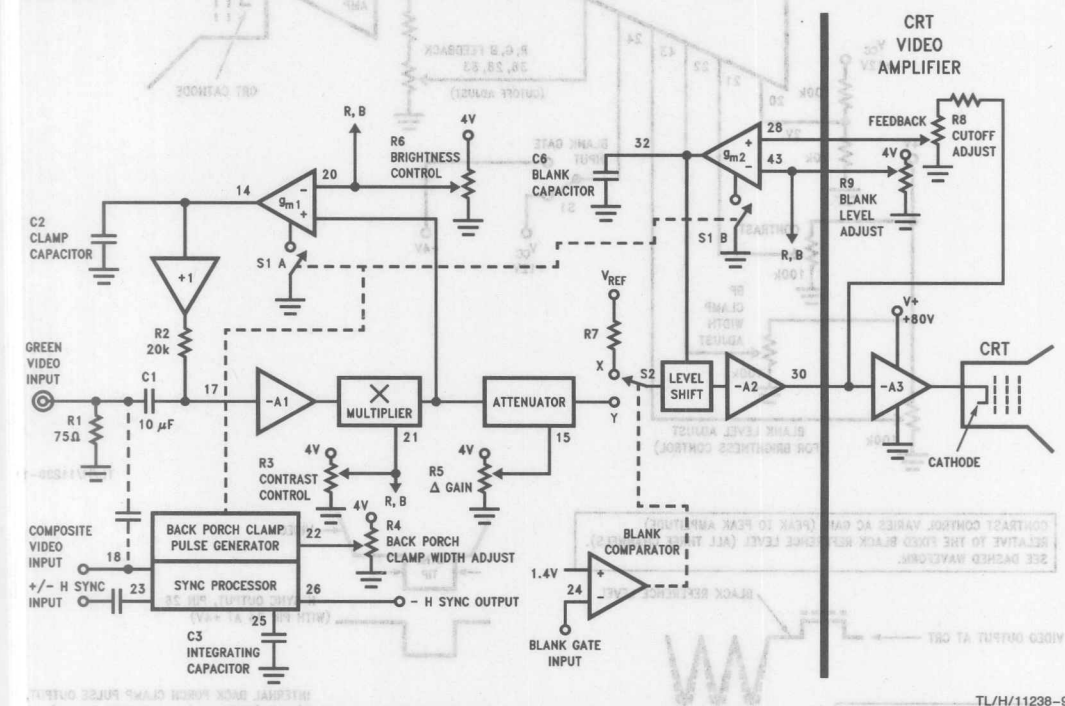
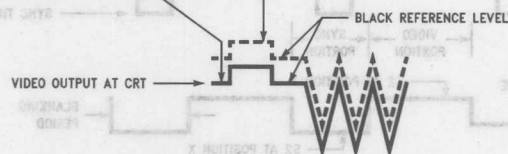
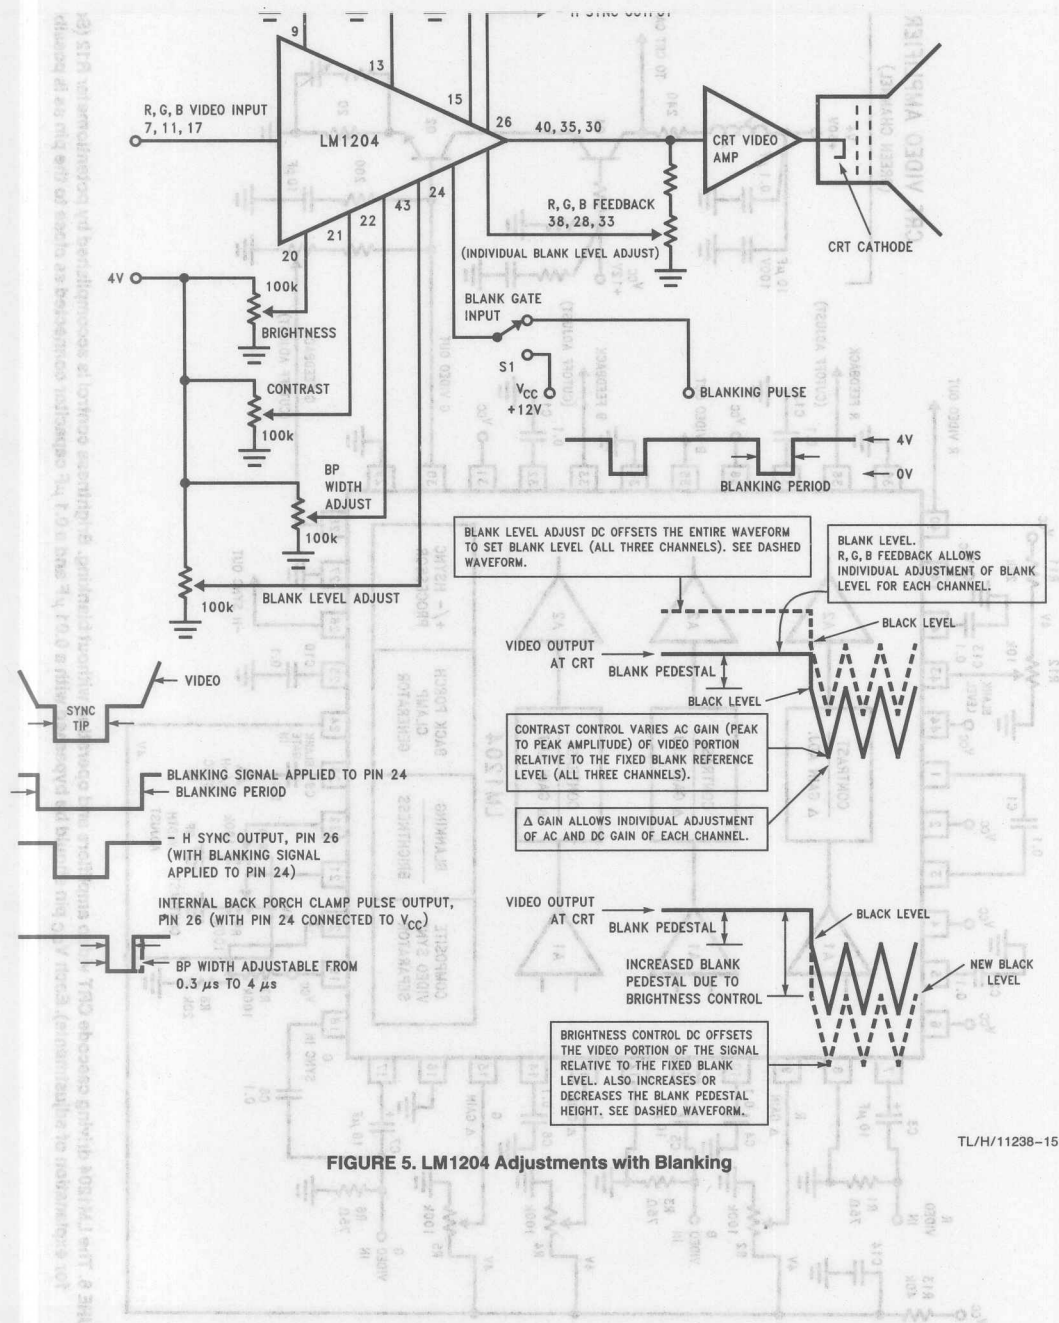

FIGURE 2. Block Diagram Showing Timing Circuitry and Green Video Channel
FIGURE 4. LM1204 Adjustments without Blanking
FIGURE 5. LM1204 Adjustments with Blanking
- Brightness Control** (Pin 20) If the LM1204 is used without blanking then this pin should be biased at 2.0 V_{DC}. Brightness control for all three video channels is now controlled by pin 43 (blank level adjust pin). See Figure 4. If the LM1204 is used with blanking then this pin allows the user to simultaneously DC offset the video portion of the output signals of all three channels thus allowing brightness control (See Figure 5).
to 4 V _{DC} voltage to this pin. The back porch clamp signal width can be varied from approximately 0.3 μ s to 4.0 μ s by applying 4V to 0.5V respectively. By connecting the blank gate input pin (pin 24) to V _{CC} , the back porch clamp pulse can be monitored on the -H Sync output pin (pin 26). See Figures 4 and 5. By connecting pin 22 to V _{CC} , the LM1204 functions as a non-gated amplifier requiring no clamping. See Section 4 under application hints for further information.
Blank Gate In (Pin 24)	This is the blank gate input pin. The LM1204 allows video blanking at the preamplifier. If blanking is desired then a TTL compatible, negative polarity blanking signal should be applied to this pin. During the blanking interval, all three video outputs are level shifted to the blank level set by the voltage at pin 43. If blanking is not required then, pin 24 should be biased at 4V. Connecting pin 24 to V _{CC} will cause pin 26 to output the internally generated back porch clamp signal. The user can observe the change in back porch width as the potential at pin 22 is varied (see Figures 4 and 5).
-H Sync Out (Pin 26)	This output pin provides a negative polarity horizontal sync signal for other system uses. There is approximately 100 ns delay between the \pm H Sync input signal at pin 23 and the -H Sync output signal at pin 26. Connecting pin 24 to V _{CC} will cause pin 26 to output the internally generated back porch clamp signal. The user can observe the change in back porch clamp pulse width as the potential at pin 22 is varied (See Figures 4 and 5).
Blank Level Adjust (Pin 43)	This pin serves two functions depending on whether the LM1204 is used with blanking or without blanking. If blanking is not selected then pin 20 should be biased at 2.0 V _{DC} and pin 43 assumes the role of brightness control. Varying the potential at pin 43 will simultaneously DC offset the video output signals of all three channels (See Figure 4). If the LM1204 is used with blanking then during the blanking interval, all three video output signals will be level shifted to the blank level. The desired blank level can be set by adjusting the potential at pin 43. Brightness control is now made possible by varying the potential at pin 20. Adjusting the brightness control DC offsets the video portion of the signal relative to the fixed blank level (all channels are affected simultaneously). See Figure 5.
Figure 2 shows the block diagram of the green video channel and the control logic. The two modes of operation, with and without blanking, are described below in detail.
For operation without blanking, the blank gate input (pin 24) should be connected to +4V. This causes the blank comparator to connect switch S2 to position Y (See Figure 2).
Furthermore, the brightness control input pin (pin 20) should be biased at a potential between 1V (Min) and 3.8V (Max), it is best to bias this pin at 2V. The video signal is AC coupled to the input of the LM1204 as shown for the green channel in Figure 2. During the back porch interval of the video signal (See Figure 3), the internally generated back porch clamping pulse goes low, causing switches S1A and S1B to be closed. The closure of S1A causes g_{m1} to charge capacitor C2 to a potential determined by the DC voltage at pin 20. This allows g_{m1} to set up an average DC bias for the AC coupled video signal at the input of A1. When the back porch clamping pulse is high, S1A and S1B are opened. With S1A open, g_{m1} is effectively disconnected from C2, C2 now holds the DC bias voltage. The transconductance stage g_{m1} therefore functions as a sample and hold device and holds the input of A1 at the desired DC bias.
ment for each channel is done by varying the feedback voltage at each of the R, G and B feedback inputs (Pins 38, 28 and 33). For example, cutoff adjustment for the green channel is done by potentiometer R8 shown in Figure 2.
Adjusting the contrast control (potentiometer R3 in Figure 2) varies the peak to peak amplitude (includes sync tip if present) of all three video output signals relative to their black reference level. The Δ Gain adjust (pins 9, 15 and 13 for R, G, and B channels respectively) allows the user to individually adjust the AC gain of each channel. For example the AC gain of the green channel is adjusted using potentiometer R5 as shown in Figure 2. Normally the red channel is set for maximum gain and the gains of the blue and green channels are reduced until white balance is achieved on the CRT monitor's screen. Figure 4 shows the adjustments for operation without blanking.
During the blanking period, the blanking comparator connects switch S2 to position X (See Figure 2). This causes the LM1204 to level shift the video output signal to the blank level. Adjusting R9 will adjust the blank level of all three channels. Individual blank level adjustment for each channel is done by varying the feedback voltage at each of the R, G and B feedback inputs (pin 38, 28 and 33). In Figure 2 this is done by adjusting potentiometer R8 for the green channel.
During the video portion of the video signal, S2 is connected to position Y. Brightness control is now accomplished by varying the potential at the brightness control pin (pin 20). Adjusting R6 offsets the video portion of all three output signals relative to the fixed blank level, restoring the DC level of the video signal. Figure 5 shows the adjustments for operation with blanking.
FIGURE 6. The LM1204 driving cascode CRT video amplifiers and operating without blanking. Brightness control is accomplished by potentiometer R12 (See Figure 4 for explanation of adjustments). Each V_{CC} pin should be bypassed with a $0.01 \mu F$ and a $0.1 \mu F$ capacitor connected as close to the pin as is possible.
FIGURE 7. The LM1204 driving cascode CRT video amplifiers and operating with blanking. The video signal is level shifted to the user adjustable blank level during the blanking period. Brightness control DC offsets the video signal relative to the fixed blank level and is accomplished by potentiometer R7. See Figure 5 for explanation of adjustments. Each V_{CC} pin should be bypassed with a $0.01 \mu F$ and a $0.1 \mu F$ capacitor connected as close to the pin as is possible.